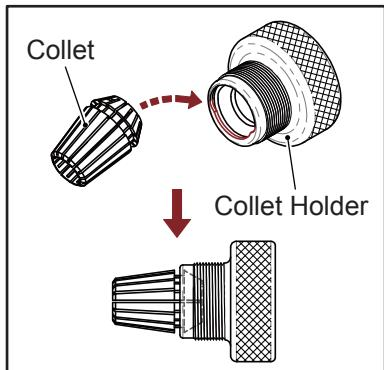

Fig. 5-1
2. Put collet into collet holder by  $45^{\circ}$  angle. (Fig. 5-1)